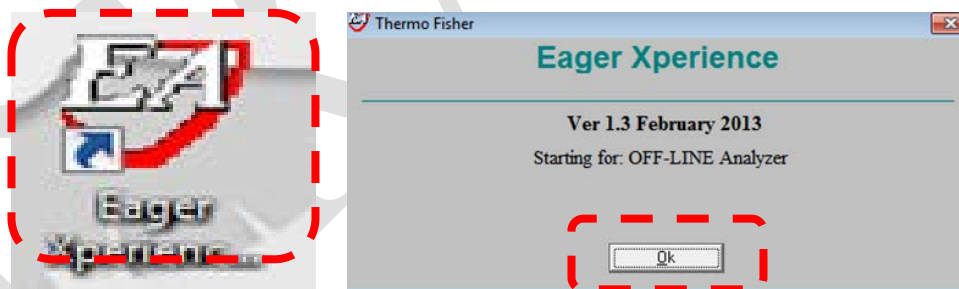

Fig.2 EA icon
- 3.1.4 Click the icons (fig.2) show below in turn.